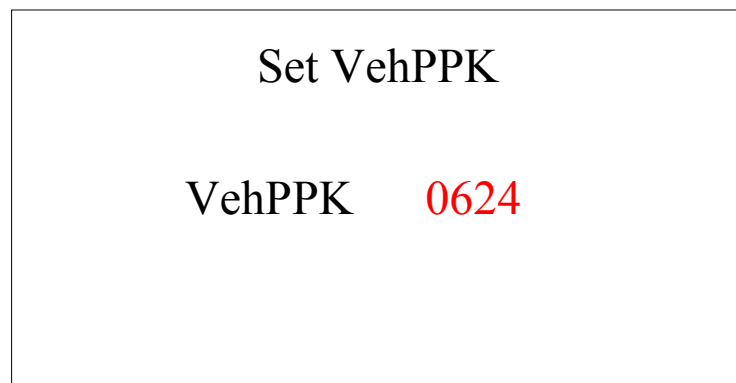

Figure-28 Set VehPPK
3.2.4 Set VehPPK. First press S1 go to set interface, Second press S2 or S3 choose Set VehPPK position as shown in Figure-16, Third press S1 go to Figure-28.